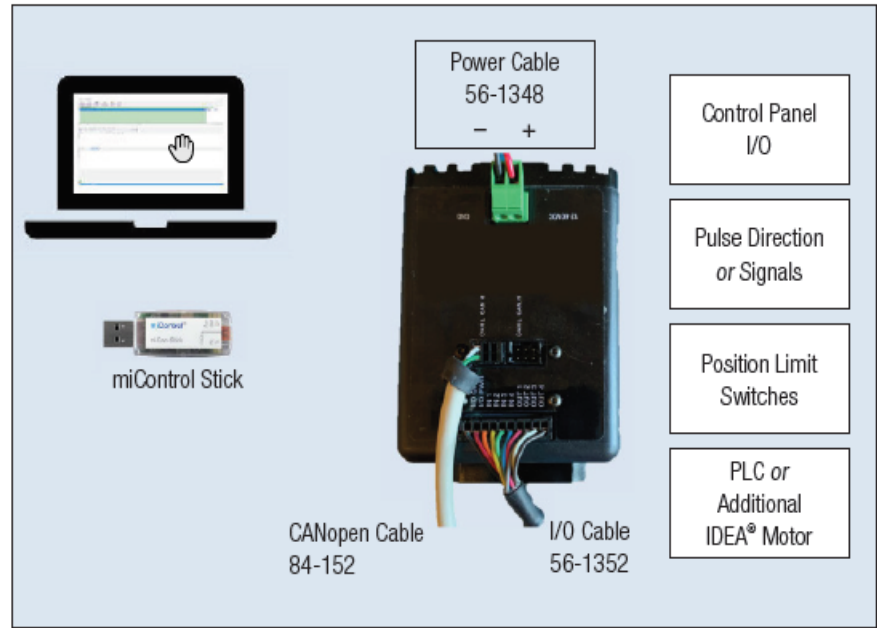

Figure 1
- Plug miControl miCAN-STICK2 to computer USB port. Plug CAN Cable to Motor. Plug Power Cable 56-1348 into the motor and connect to a power supply. See Figure 1.